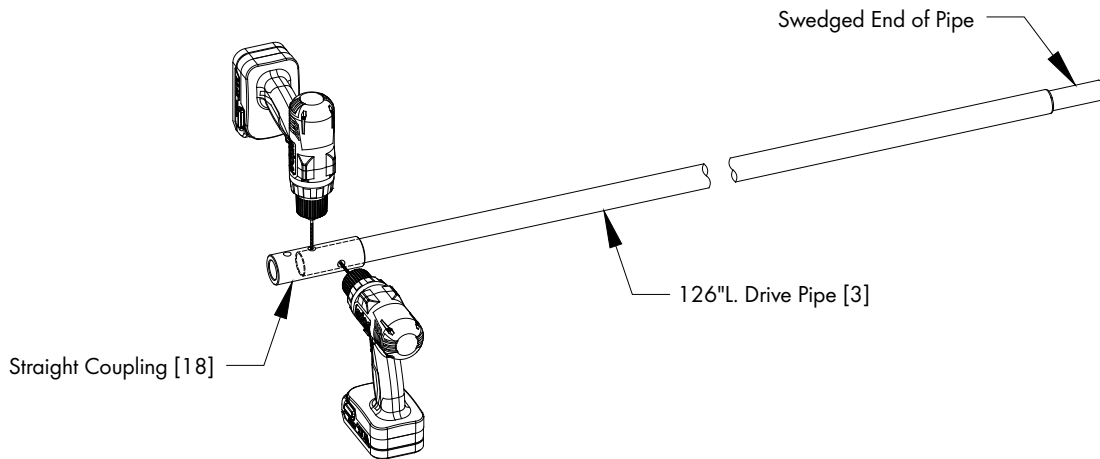

Figure 32
For the 126"L. Drive Pipe [3] that will be at the actuator end, slide the Straight Coupling [19] over the large end of the pipe so that the (2) holes are over the pipe. Then using these holes as a guide, drill (2) pilot holes through the pipe and then drill (2) $1\frac{3}{32}$ " dia. holes through the pipe. See Figure 32.